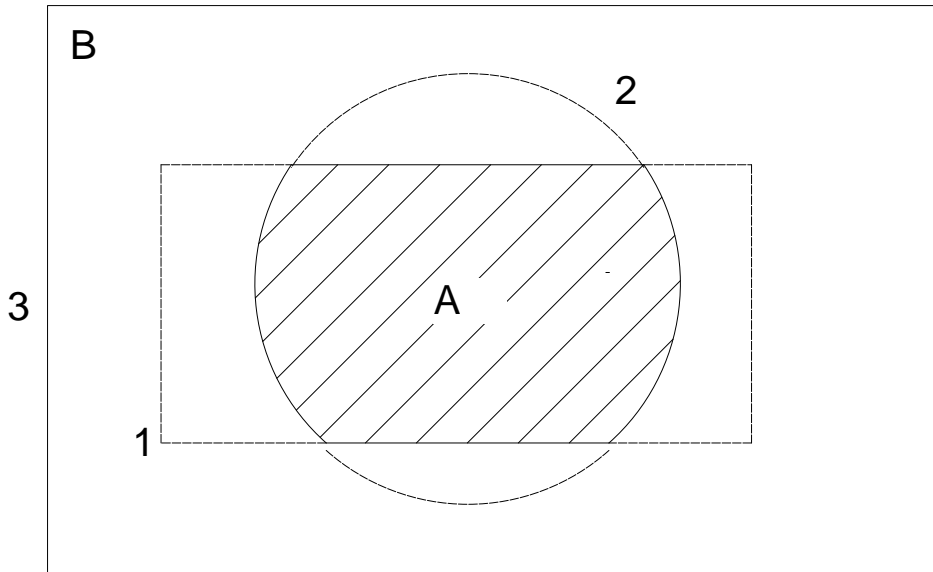

Figure 2: Use of OR operator.
As a more complicated example of the use of the (OR) operator, consider the system shown in Fig. 2 consisting of the shared region A and the unshared region B. These regions can be described by the two BOX’s, bodies 1 and 3, and the RCC, body 2. The region description would be